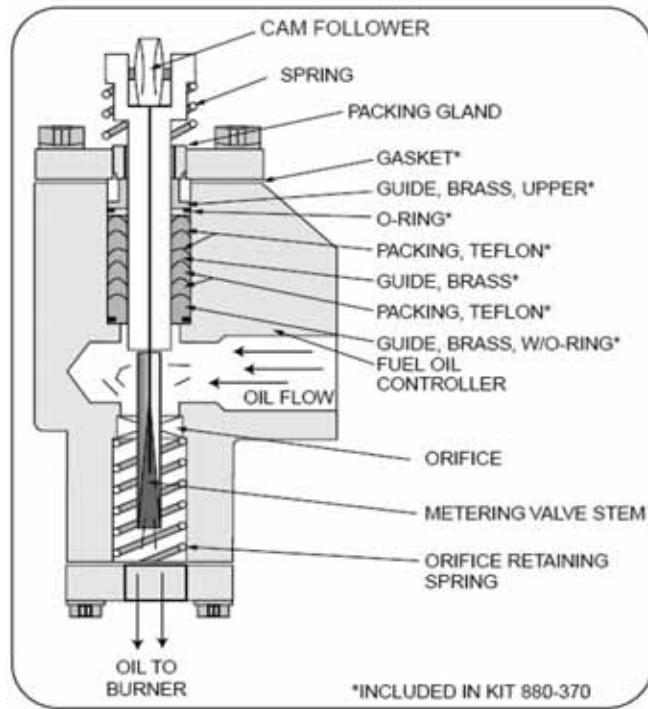

FIGURE 8-8. Metering Valve Packing Sequence
8. Lightly coat the stem with the lubricant provided with the packing kit. Place the new packing, O-rings and guides onto the stem in the sequence shown in Figure 8-8. The beveled face of the guides and the teflon rings must face upward, with the exception of the upper brass guide which is facing down. Be sure that the O-rings are properly located.